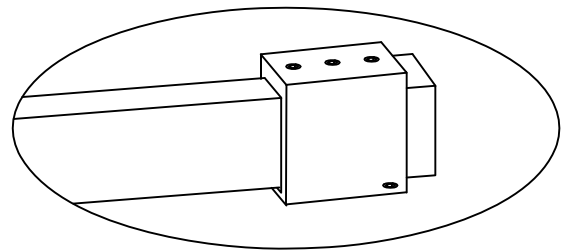

Fig. 19
19. Slide Rail End (5) onto Top Rail (2) and loosely tighten into place. Note: The Rail End (5) should be installed on Top Rail (2) so that the end of Rail End (5) with top and bottom set screws is facing outward. See Fig.19 for details